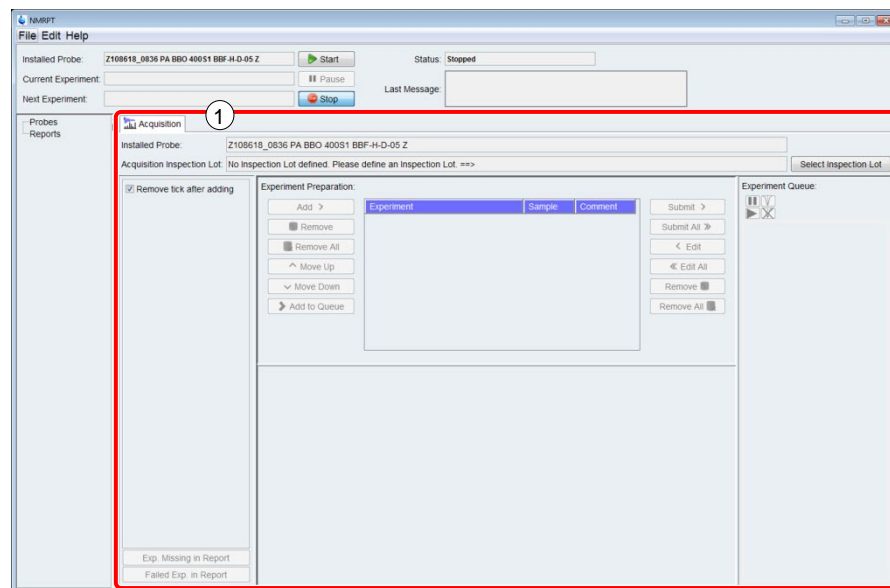

Figure 5-60: Workspace area
In Workspace area of *NMRPT* main window (Figure 5-60) multiple tabs for different functionalities can be accessed:
To close a tab, click the **x** symbol (Figure 5-60 (1)) on the right of its title.